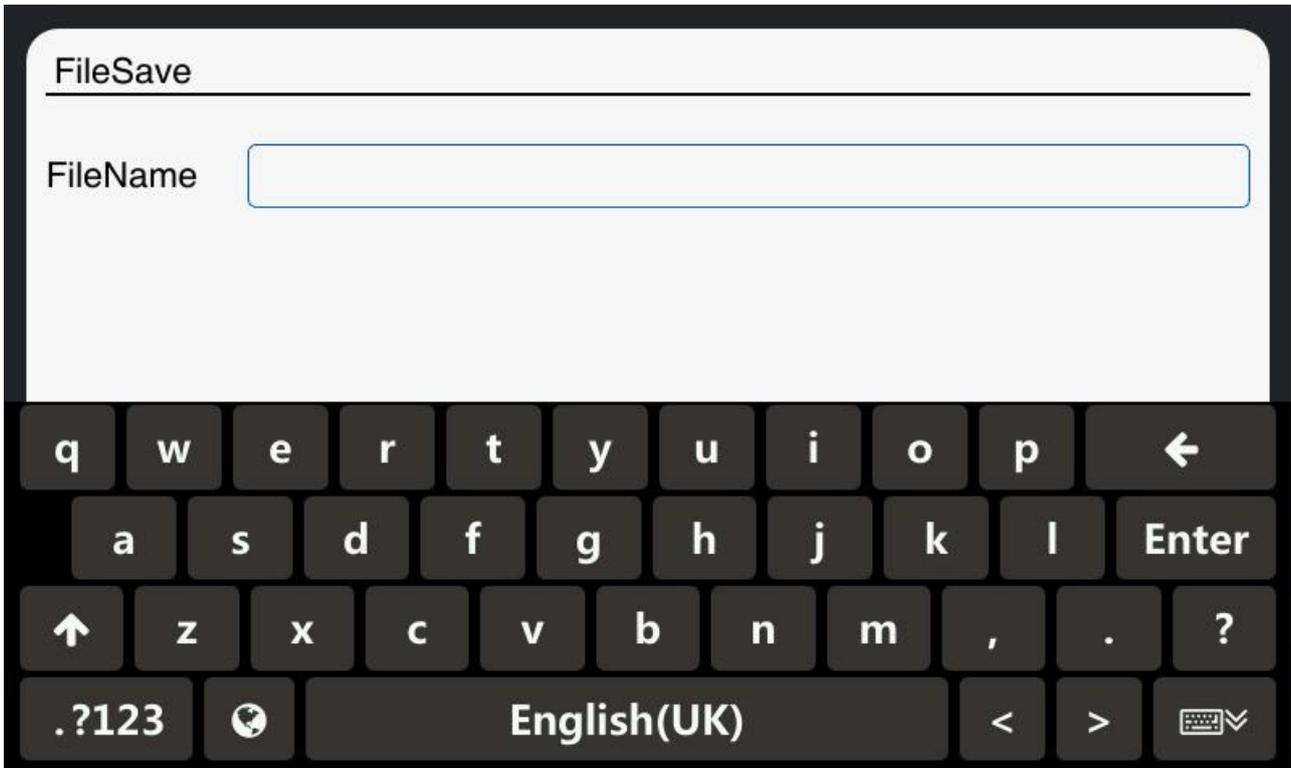

Figure 5-2 File Save interface
2. Enter the file save interface and enter the file name in this interface, as shown in Figure 5-2. Note that only numbers, letters and Chinese characters can be used to name the file, not symbols.